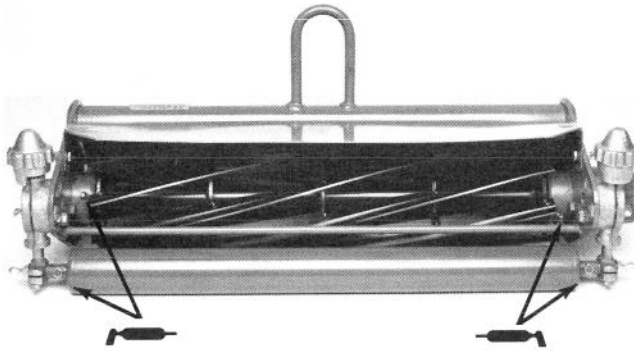

Figure 7
There are six (6) grease fittings on each cutting unit (Fig. 7, 8). Which should be greased at least once every two weeks. Lubricate using a No. 2 multi-purpose lithium base grease. A hand operated grease gun is recommended for best results.